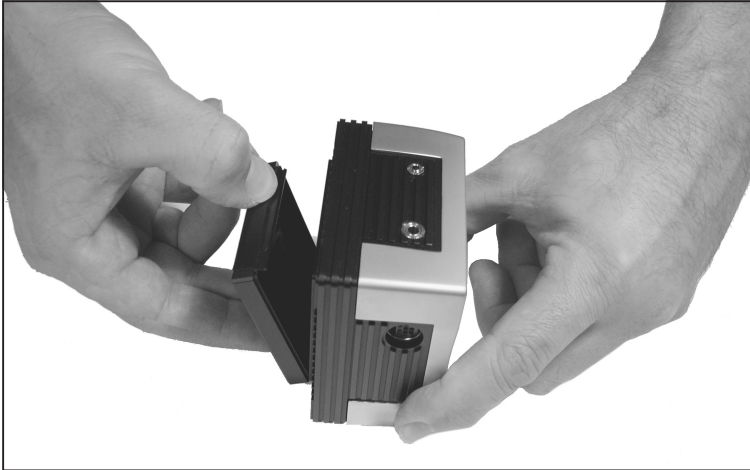

Figure 9: CCD Cover
1. Follow the directions provided with your Camera Back Adapter Kit to connect the adapter **A** to your camera back **B**, mount the assembly on your camera body **C**, and attach a focusing screen. Remember to keep the plastic CCD cover on when you are mounting the adapter (see Figure 9 on page 45) but to take the cover off just before mounting the camera back/adaptor assembly on the camera.
1. Follow the directions provided with your Camera Back Adapter Kit to connect the adapter **A** to your camera back **B**, mount the assembly on your camera body **C**, and attach a focusing screen. Remember to keep the plastic CCD cover on when you are mounting the adapter (see Figure 9 on page 45) but to take the cover off just before mounting the camera back/adaptor assembly on the camera. Be sure to save the cover and place it on the camera back each time you remove the back from your camera body.
- Always replace the protective CCD cover when the camera back is not mounted on your camera - see Figure 9.
2. Remove the camera back from your camera body or remove the protective CCD cover (see Figure 9 on page 45).